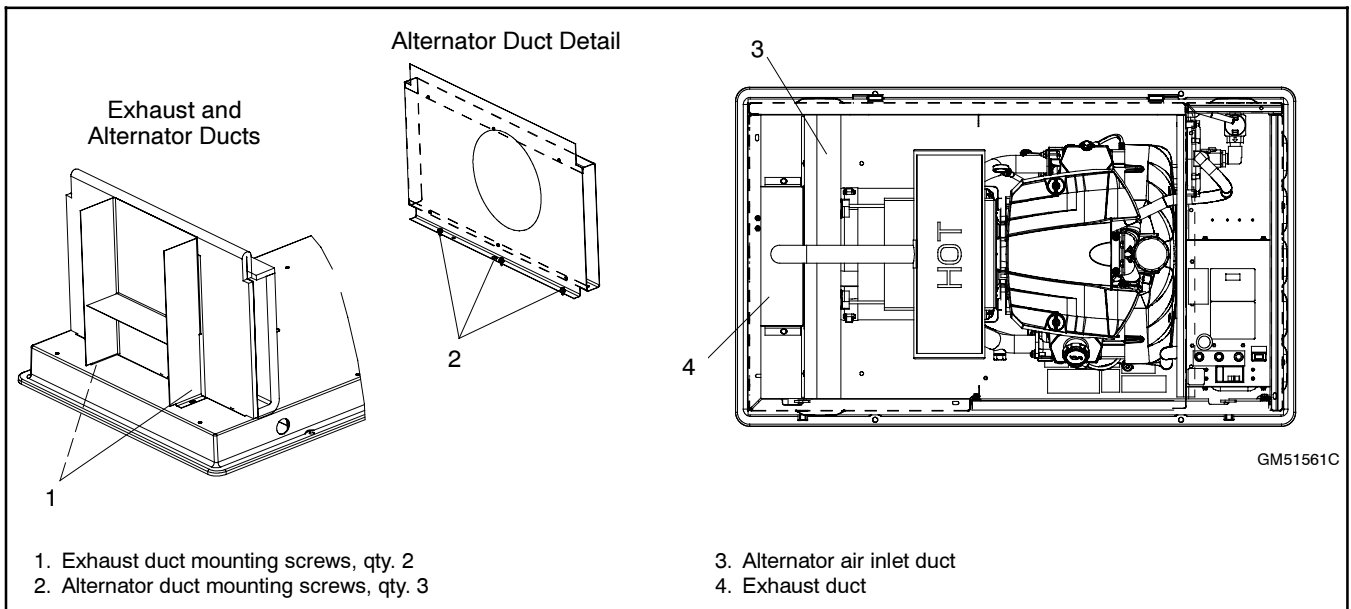

Figure 6-24 Alternator Air Inlet Duct
8. Reinstall the alternator air inlet duct. Orient the duct as shown in Figure 6-24.
9. Install the exhaust duct. See Figure 6-24.